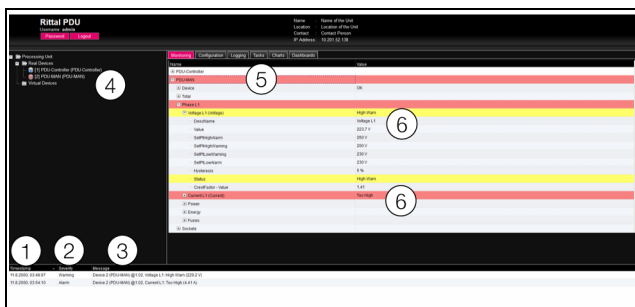

Fig. 24: Layout of message display
1. Timestamp: The date and time when the error occurred (fig. 24, item 1).
2. Severity: Severity of the error. A distinction is made between Warnings and Alarms (fig. 24, item 2).
3. Message: Error message in plain language (fig. 24, item 3).
- Left-hand section (navigation area): In the navigation area, the symbol preceding the component where the error occurred appears red in the event of an alarm message and yellow in the event of a warning message (fig. 24, item 4).
- Right-hand section (configuration area): On the **Monitoring** index tab, the entire component and the specific parameter to which the warning or alarm applies appears red or yellow (fig. 24, items 5 and 6).